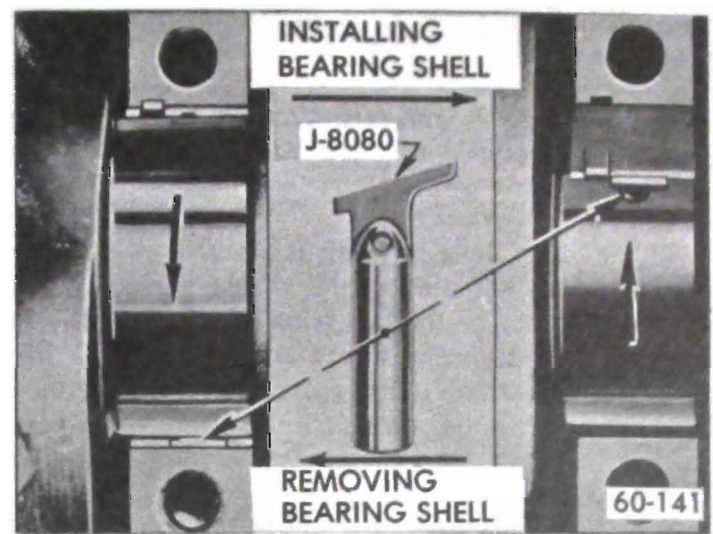

Figure 60-34 - Removal and Installation of Crankshaft Bearing Upper Shell
7. Remove upper bearing shell by inserting Bearing Shell Remover and Installer J-8080 in oil hole in crankshaft, then slowly turning crankshaft so that the tool rotates the shell out of place by pushing against the end without the tang. See Figure 60-34.